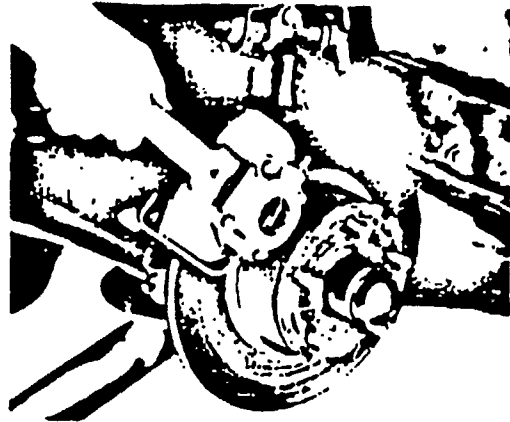

Fig. 24
5. Slide the forked end of the special tool between the rotating disc and the piston. (see fig. 24) The flat side of the tool should be towards the face of the rotating disc and the pivot stud of the tool inserted in the hole from which the retainer clip bolt was removed.